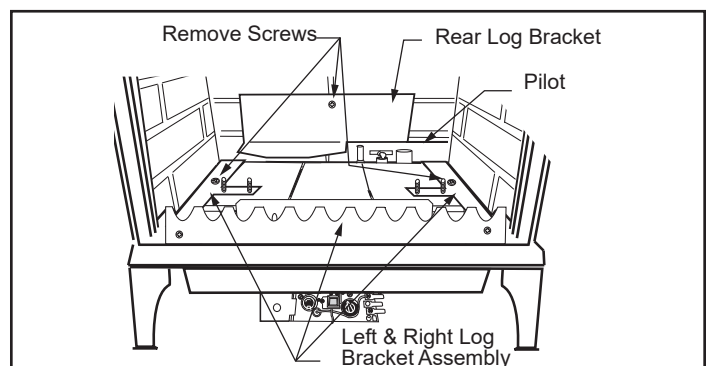

Figure 37 - Remove rear log bracket and left and right log bracket assembly.
5. Remove the rear log bracket by unfastening the screw. (Figure 37)
6. Remove the right and left log bracket assembly by unfastening the two screws which hold the burner in place. (Figure 37)
8. The air shutter is located on the bottom of the burner to the left. (Figure 37) Unfasten the two nuts holding the shutter in place.